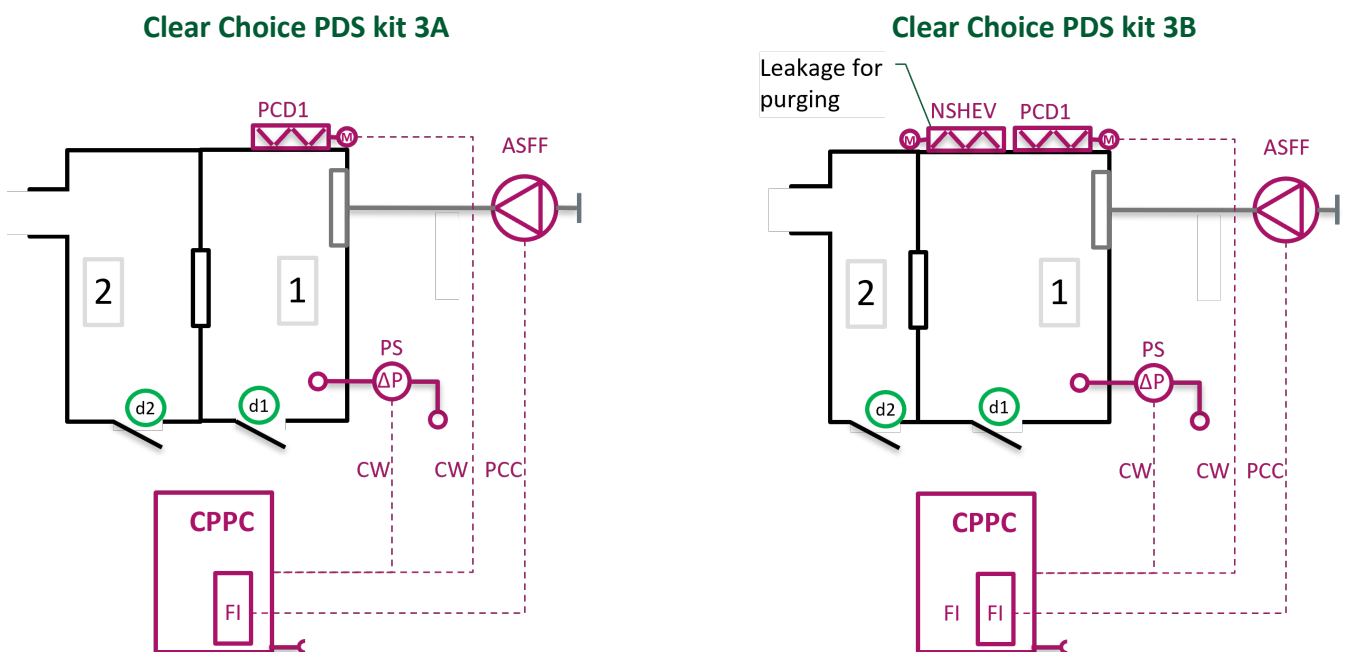

Figure 6 Overview of PDS kit 3A & 3B
- Supply system (Zone 1, Figure 6 Overview of PDS kit 3A & 3B) consists of supply fan, pressure control damper and pressure sensor/ control. In addition to kit 3A, kit 3B allows for a permanently open vent between the pressurised space and the exterior for purge ventilation throughout the operation of the PDS.
- Passive air release (Zone 2, Figure 6 Overview of PDS kit 3A & 3B), with an air release path designed to limit pressure loss from the air release zone to exterior to less than the design pressure (nominally 30 Pa) – passive air release paths with pressure losses of less than 15 Pa are recommended for a 30 Pa design pressure.
Key for Figure 6